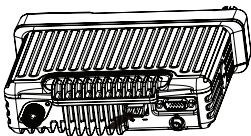

Figure 5
6. Connect the DC power cable to the transceiver's power supply connector. Press the connectors firmly together until the locking tab connectors firmly together until the locking tab clicks (Figure 5).